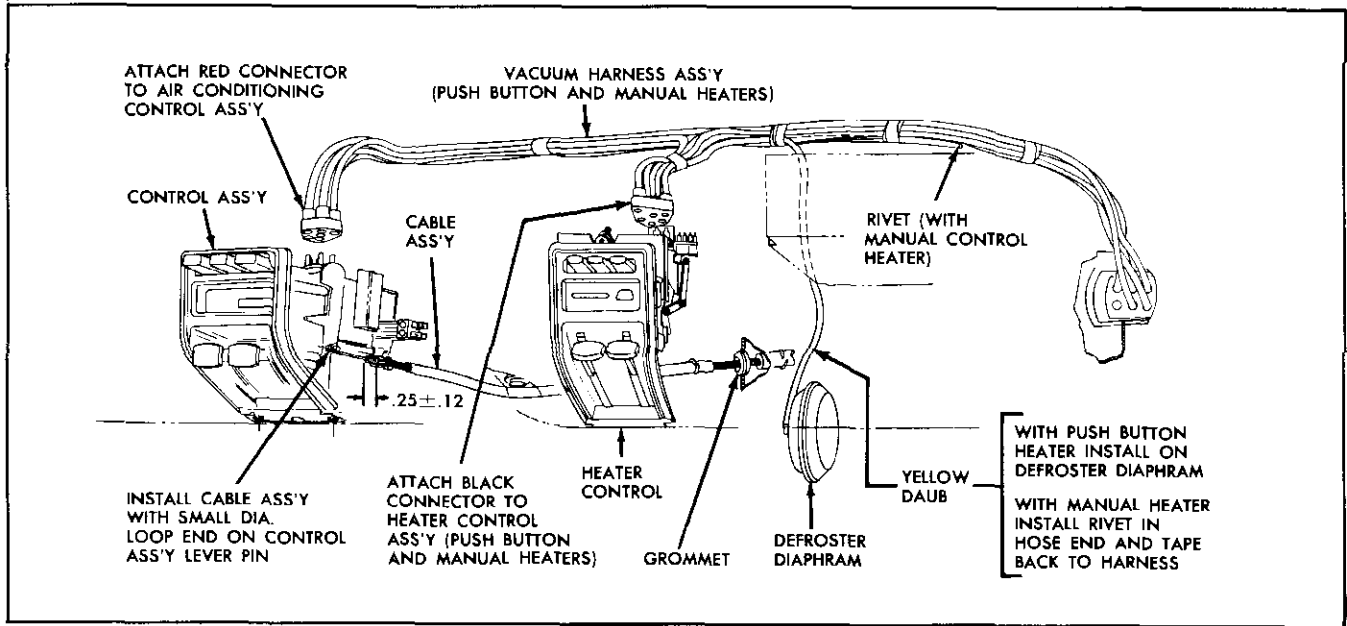

Fig. 6-45 Installation of Cables at Control Panel
5. Pull cable through dash and attach to control panel so cable housing extends through the cable clamp and  $\frac{1}{4}$ " beyond (Fig. 6-45).